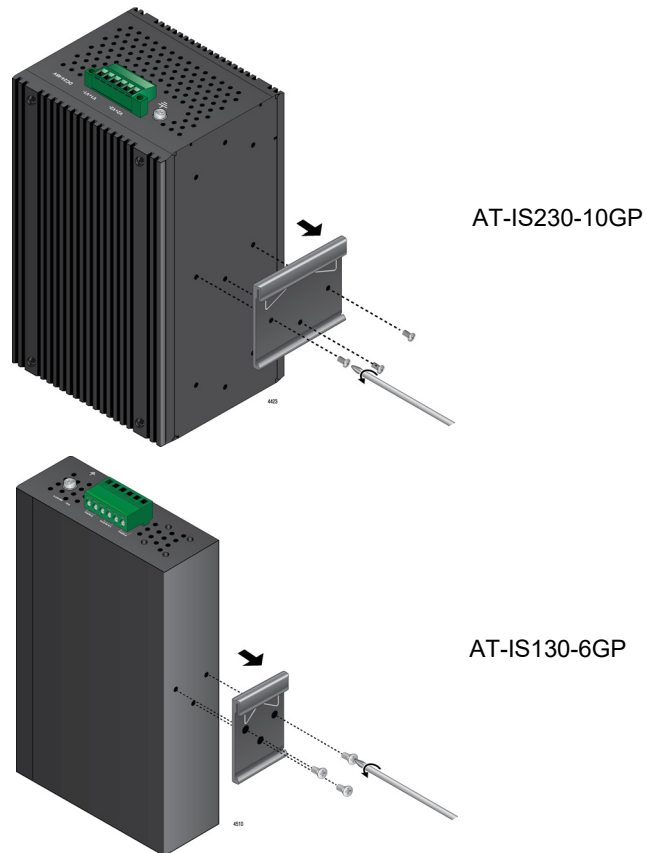

Figure 24. Remove Din Rail Mounting Bracket
2. Remove DIN rail mounting bracket that is factory-installed on the back panel of the switch. Refer to Figure 24 on page 67.